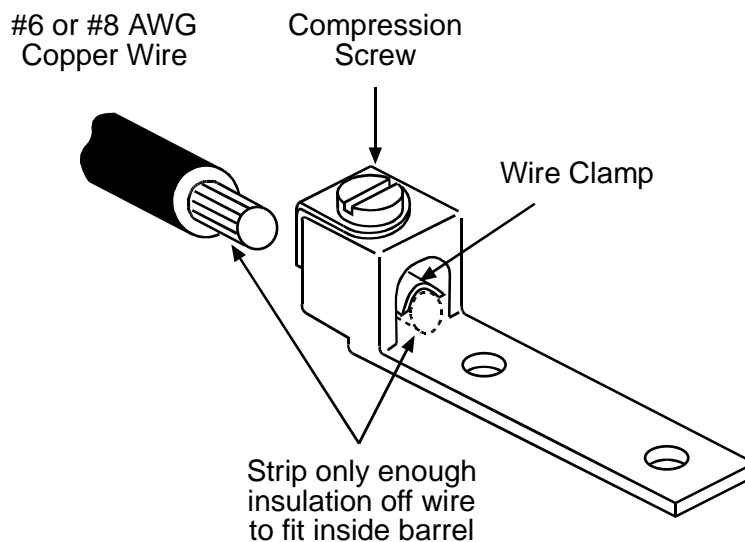

Figure 6-2. Connect Ground Wire to Lug
1. Measure and cut enough insulated copper wire to connect from building ground to Grounding Lug on Access Navigator (see Figure 6-2).
1. Strip enough insulation off wire end to fit inside lug, flush with front of wire clamp (see Figure 6-2).